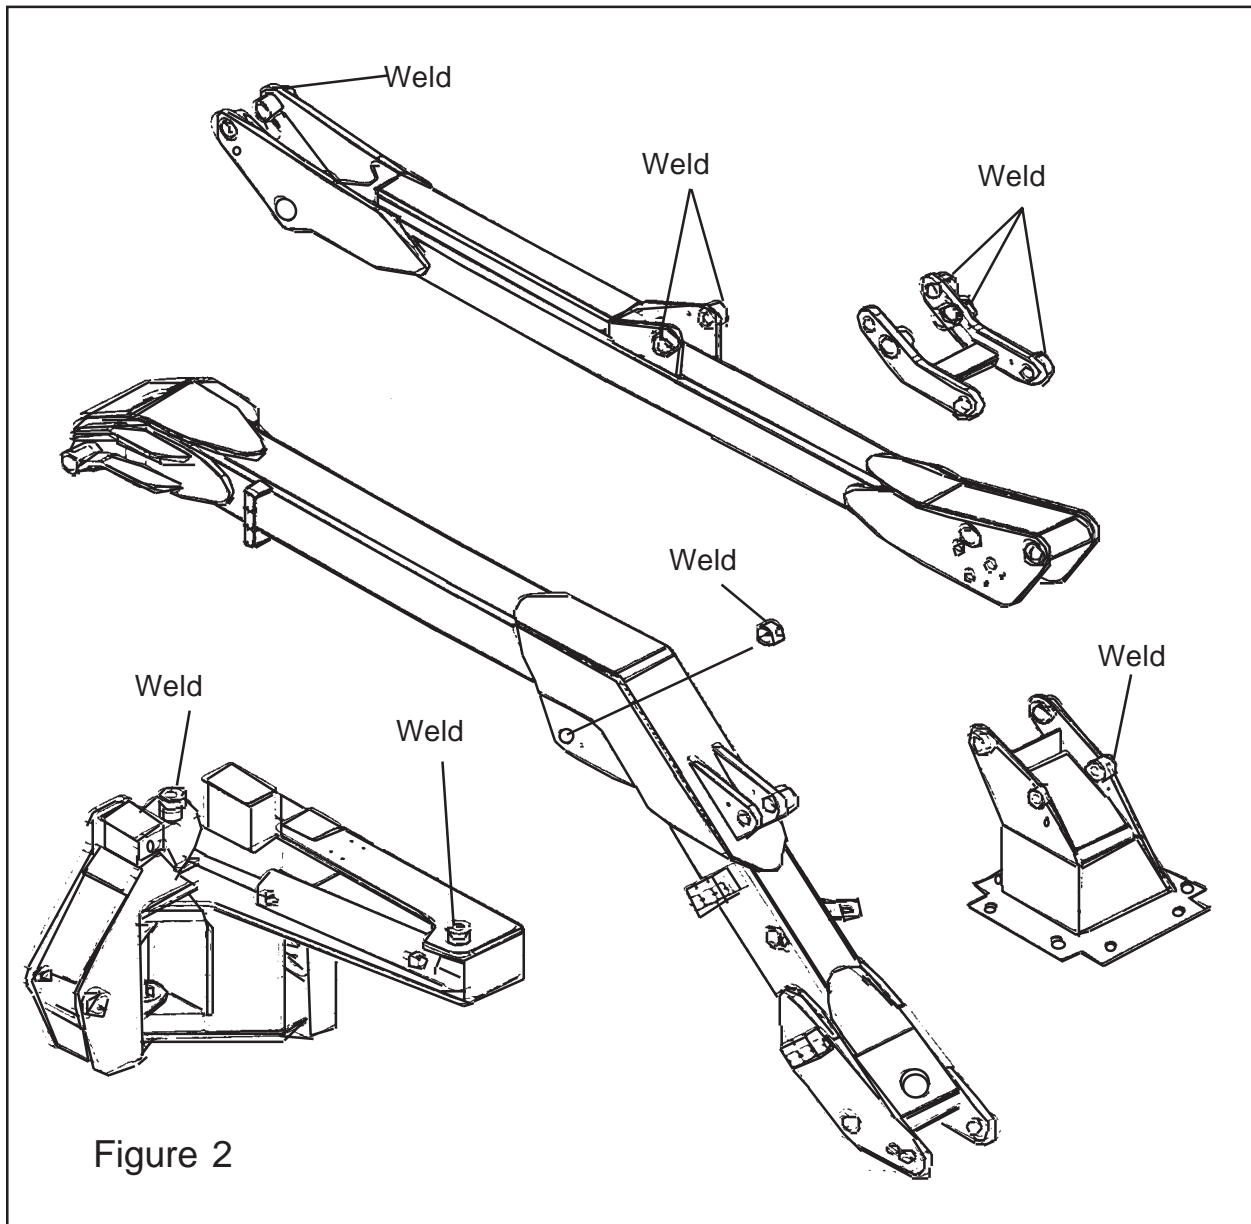

Figure 2
3. Place angles (02971946 & 02972111) on rotary head as shown in Figure 2 and Figure 3. All measurements are to be taken from the edge of the 3/8" X 3" ribs running across the rotary head.
4. After aligning the Angles to Deck (See Figure 2) tack weld them in place. Recheck all measurements and alignments, then weld in flanges in place.